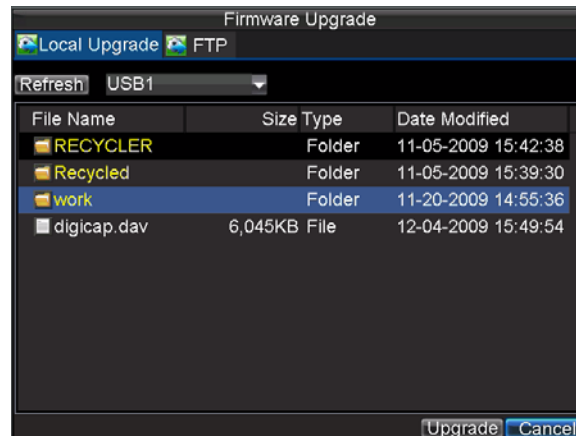

Figure11. Firmware Update Menu
2. Click Menu > Maintenance > Upgrade to enter the Firmware Update menu, shown in Figure 11.